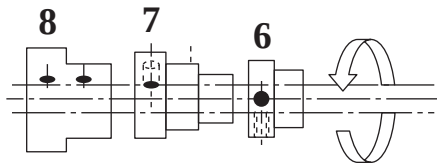

Fig.3
6. Turn handwheel (180°) counterclockwise and check position of balance weight "8" and eccentric screws "6-7".(Fig.3)